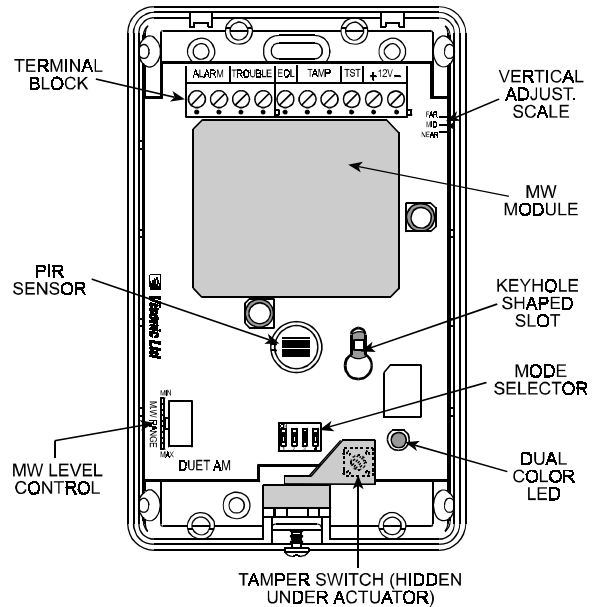
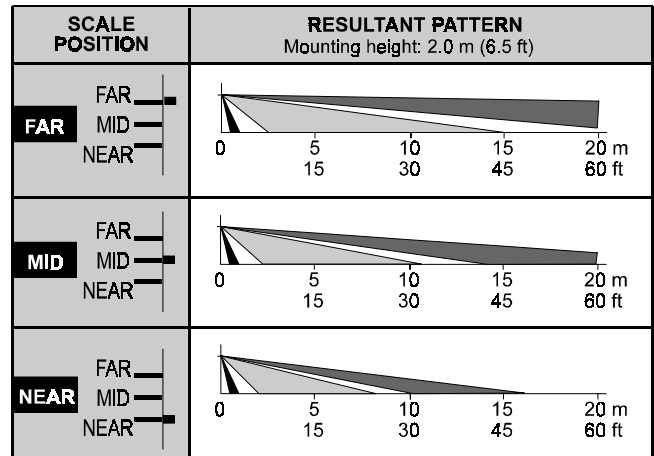

Figure 4. PCB Layout
Figure 8. Vertical Adjustment
- B. Loosen the vertical adjustment screw, slide the PCB up and remove it via the "keyhole" (see Figure 4).
The DIP switch mode selector is mounted on the unit's PC board (see Figure 4). It controls four functions as demonstrated in Figure 7.
The vertical adjustment scale for the PIR sensor is located at the upper right edge of the PC board (refer to Figure 4). Three positions are available - FAR, MID and NEAR. All new DUET-AM units are set to the FAR position. To adjust, loosen the vertical adjustment screw, slide the PC board along the vertical slot until the pointer indicates the required position on the scale (see Figure 8). When done, tighten the adjustment screw firmly.